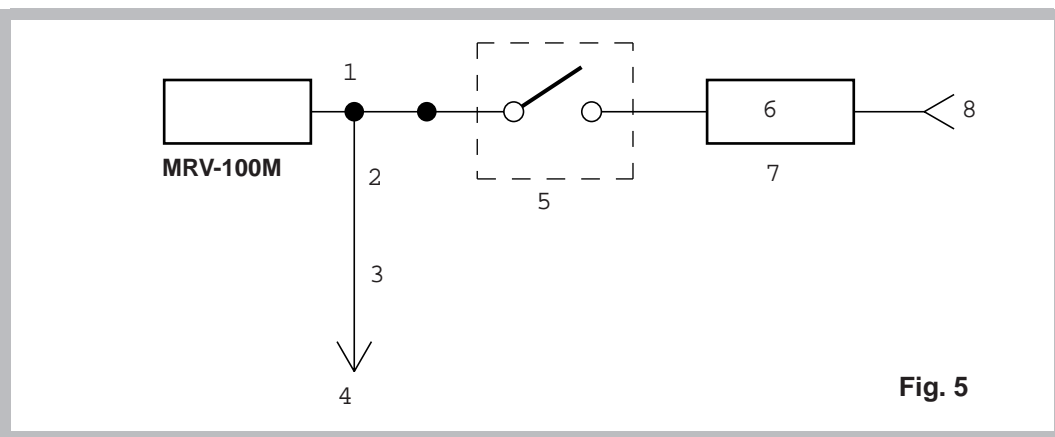

Fig. 5
In case of using the speaker input cord, noises may occur at power off depending on the head unit connected. If you feel uneasy about the noises, add a SPST switch to the connection. (Fig. 5)
- Please check your head unit for the conditions listed below: (Fig. 5)**